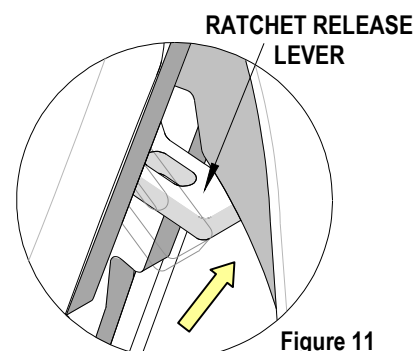

Figure 11
**Do Not force the handles open or closed.** The tool will open easily by pressing up on the ratchet release lever in the movable handle. See Figure 11.